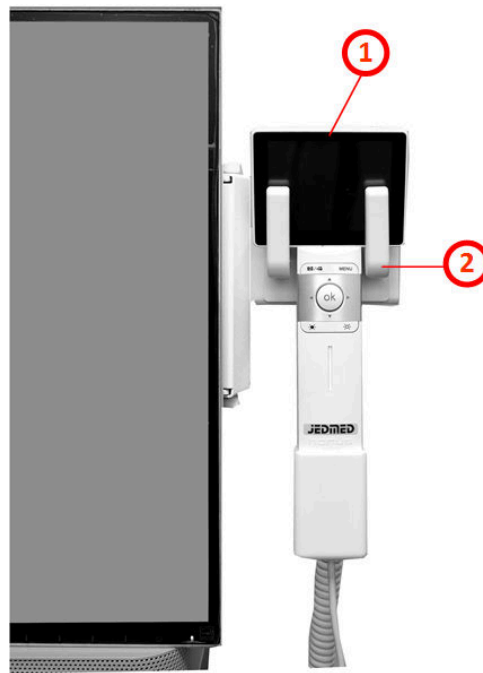

Figure 1. CLINiC with Horus Scope (1) and cradle assembly (2)
| Figure 1. CLINiC with Horus Scope (1) and cradle assembly (2) | 5 |